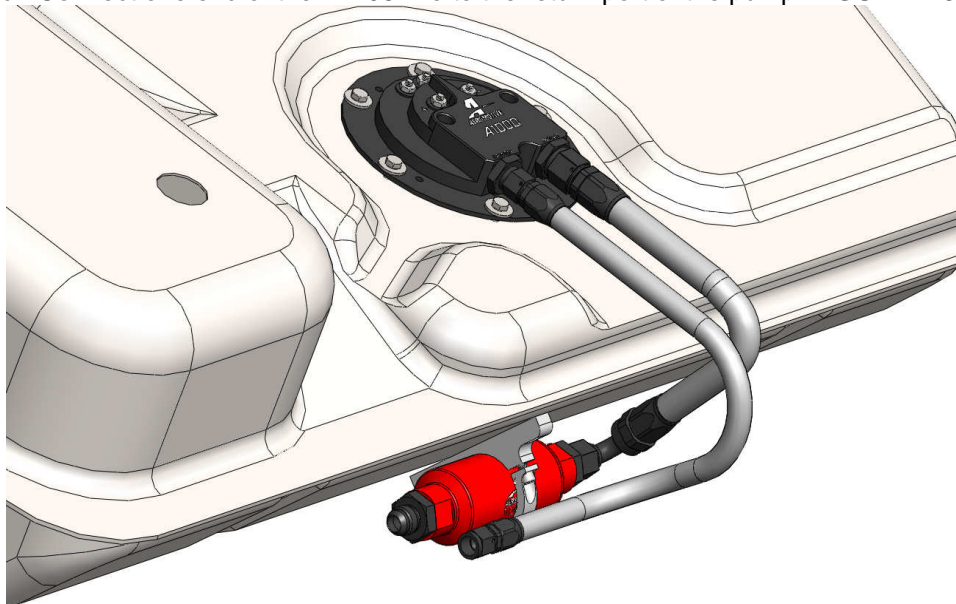

FIGURE 1-5
- 1-10. Place the fuel pump sealing gasket on top of the tank mounting ring and position the fuel pump in the tank with the outlet/return ports facing forward (toward the front of the car). Use the supplied 6 bolts and washers to secure the pump assembly to the tank. Place the lower tank shield onto the bottom of the new Aeromotive tank at this time. Assemble a small section of AN-08 hose with straight hose-end on one side and 90-degree hose-end on the other. Route from the pump outlet to the fuel filter inlet. Next, assemble a 1-2 foot section of AN-06 line with straight hose-ends at each end. Connect one end of the AN-06 line to the return port of the pump. **FIGURE 1-5**